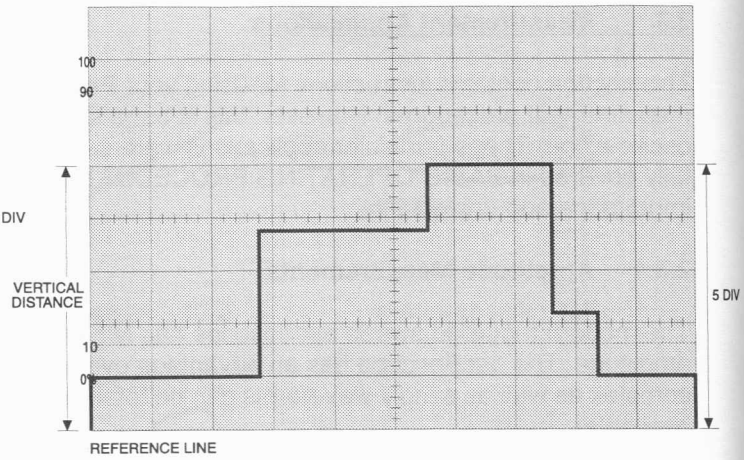

Fig. 2.6: Instantaneous Voltage Measurements
2. Connect the component test input (36) and GND (37) to both terminals of component with DMM Probe. Then V-I characteristic curve is displayed on the screen (see figure 2-6).
2. Adjust the TIME/DIV switch (15) for one complete cycle of waveform and set the VOLTS/DIV switch for a trace amplitude of 4 to 6 divisions (see Figure 2.6)
3. Flip the AC/GND/DC switch (25) or (21) to GND.
4. Use the appropriate Vertical POSITION control (4) or (7) to set the baseline on the central horizontal graticule line. However, if you know the signal voltage is wholly positive, use the bottommost graticule line. If you know the signal voltage is wholly negative, use the uppermost graticule line.
6. Use the horizontal POSITION control (10) to position any point of interest on the central vertical graticule line. This line has additional calibration marks equal to 0.2 major division each. The voltage relative to ground at any point selected is equal to the number of divisions from that point to the ground reference line multiplied by the VOLTS/DIV setting. In the example used for figure 2-6, the voltage for a 0.5 V/div scale is 2.5 V (5.0 div x 0.5 V).